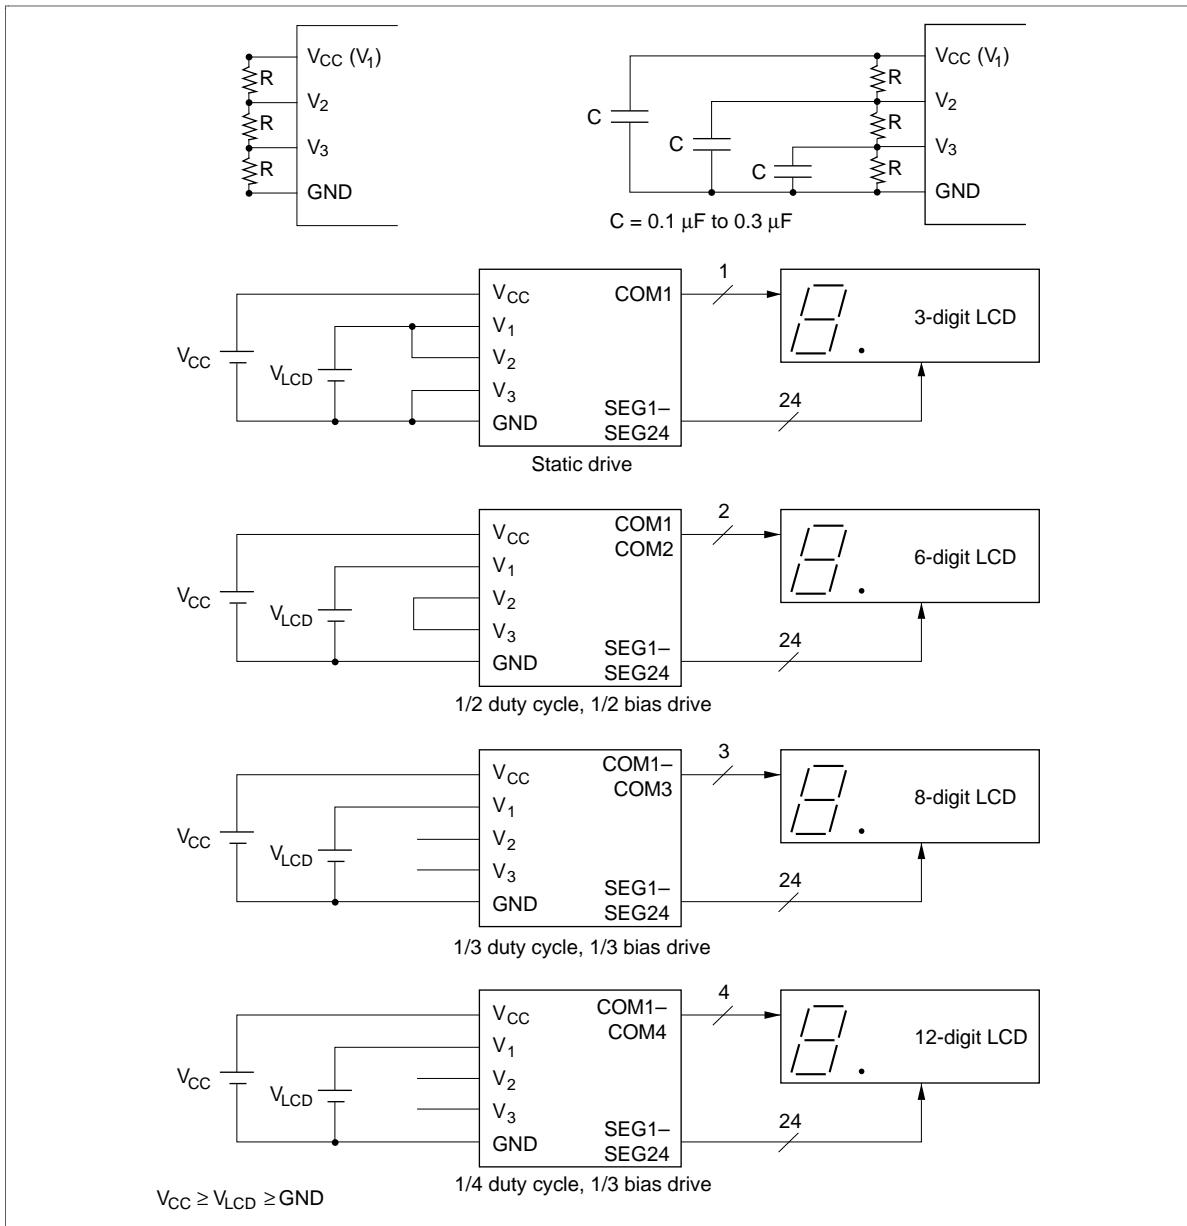

Figure 40 LCD Connection Examples
**Large Liquid-Crystal Panel Drive and  $V_{LCD}$ :** To drive a large-capacity LCD, decrease the resistance of the built-in division resistors by attaching external resistors in parallel, as shown in figure 40.